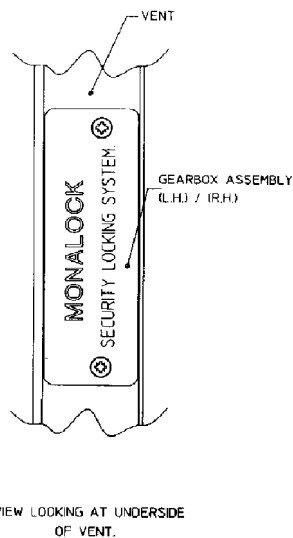

Fig. 8
Fig. 8 a & b
10.11.2 Night Vent Handle (Fig. 8 a & b)
Insert correct gearbox (check 'L' or 'R' on gasket face) into the vent outer face ensuring the two drive pins locate correctly in the machined slots; fix with the black No. 8 x 1/2" Pozi CSK S/T screws supplied in the gearbox pack - (Fig.8).